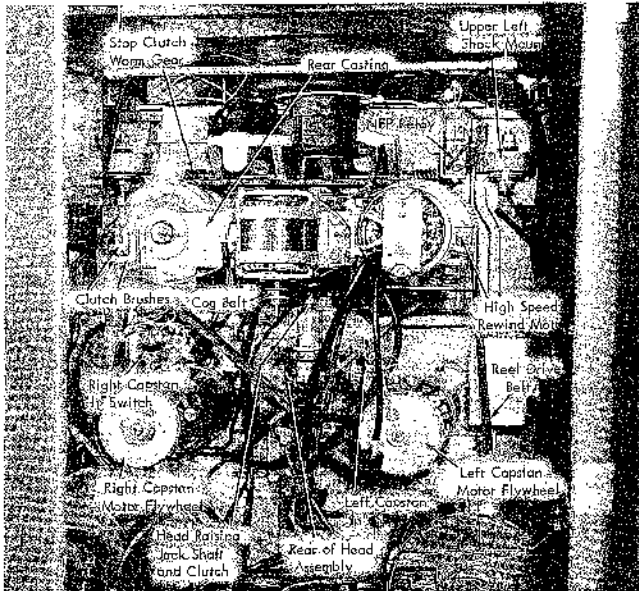

Figure 3-18. Drive Mechanisms
Figure 3-18 shows the tape unit drive mechanisms.
Brush-to-Clutch Commutator Ring Contact Resistance. See Figure 3-18. With the tape unit power cut off, connect an ohmmeter to the brush and commutator ring of each clutch. This resistance should not exceed 25 ohms.
3.4.2 Jack Shaft Assembly (Figure 3-18)
An extra take-up motor has been added to the 729 n III, and IV. Previously, one motor was used for both tape take-up and head take-up. Now a separate motor is used for each of these functions. See Figure 3-18.